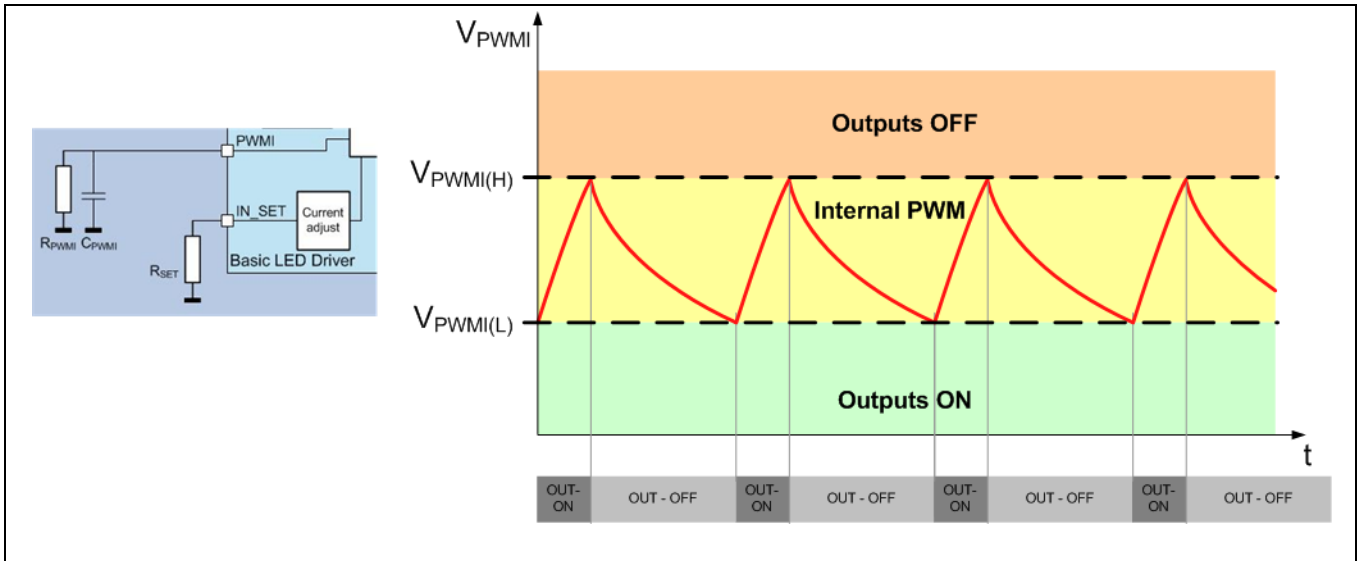

Figure 27 Operating thresholds of PWMI pin (internal PWM unit), R_{PWMI} & C_{PWMI} connection to PWMI pin
- o The internal PWM unit works by charging (via pull up current source which is active when PWMI is active (low)) and discharging (via the external resistor when PWMI is inactive (high)) the external capacitor in the RC network. In this way, the upper and lower thresholds of the PWMI pin are reached at the frequency and duty cycle based on the external RC circuit. See figure 27 for the threshold definition and connection for R_{PWMI} and C_{PWMI} .